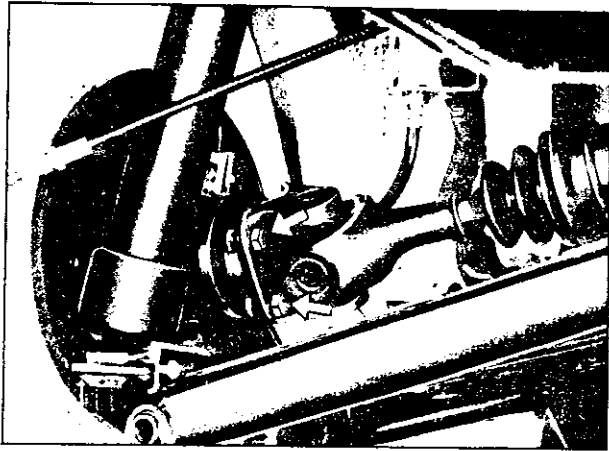

Fig. RA-13 Removing the drive shaft
4. Remove the drive shaft installation bolt (wheel side). (Figure RA-13)